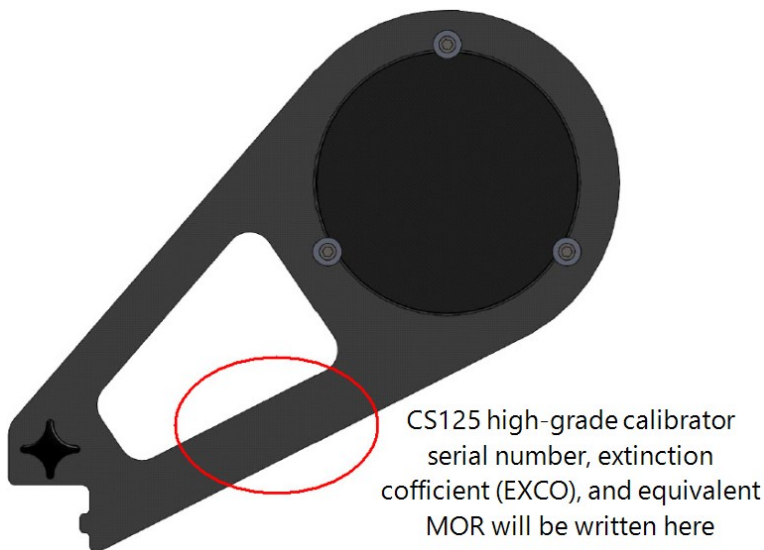

Figure 8-1. Calibration disk
7. Place the foam bungs into the sensor hoods (see Figure 8-1 [p. 43]). The bungs are designed to block all light from the outside reaching inside the head. Place one bung into each hood. If either of the bungs are damaged or appear to have any gaps around the edge, contact Campbell Scientific (see Assistance for more information).